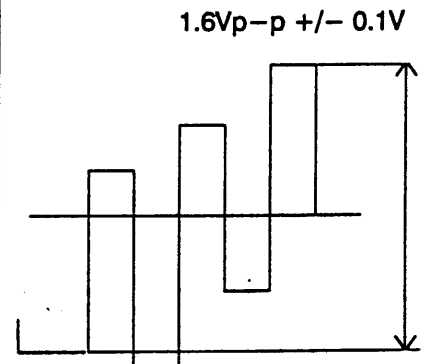

Fig.11.
2. Adjust the sub colour (R606) for $1.6Vp-p \pm 0.1V$ at TPC15 (TPE15) as shown in Fig.11.